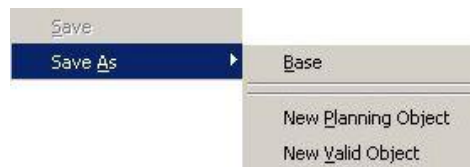

Figure 40: Saving Plan Variants
- 3) Name the plan variant and then save it via the menu **WL Balancing < Save As**. Please refer to the Figure 40.